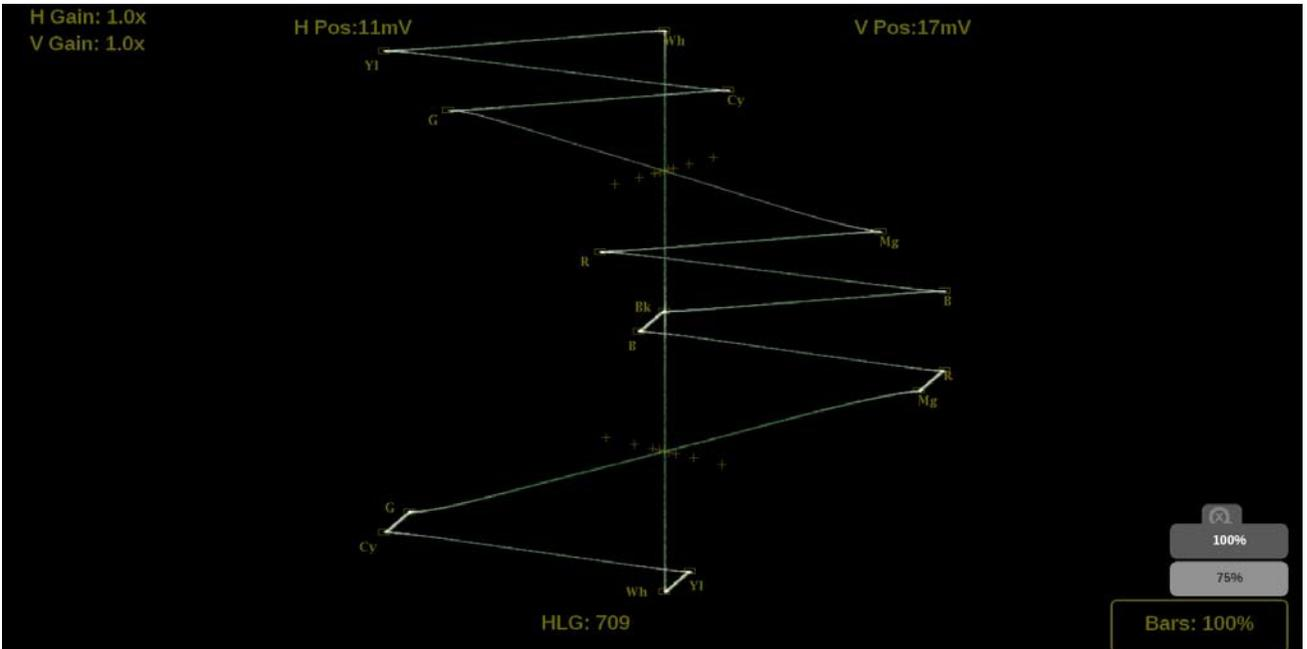

Figure 213: Lightning on-screen tools – Bar Targets
1. Select the **Bars** button in the bottom right corner of the application to expand the available options. (See Figure 213.)